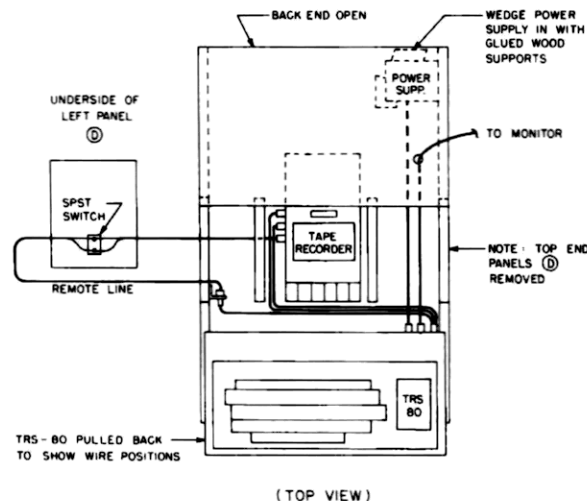

Fig. 3.
Wire an SPST switch to the left end (D) panel for recorder control, as shown in Fig. 3. Now epoxy this panel in place. Epoxy the right (D) panel and hold down in place with some weights; screws are not required.